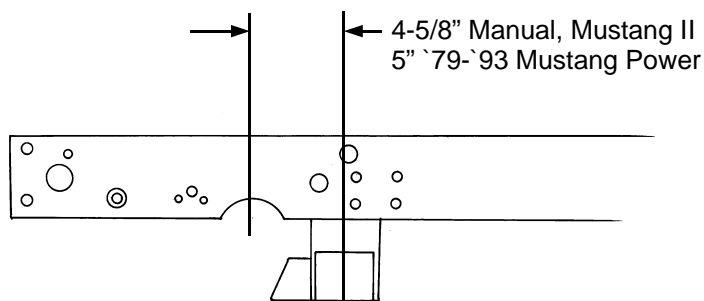

Figure 6
8. The C-notch for the rack is the last part to be done. Measure forward from the centerline 4-5/8" for manual rack and 5" for '78-'78 Mustang II power rack, or 5" for '79-'93 Mustang power rack, and make a mark. See Figure 6. Use the C-notch pieces to scribe a radius to cut. Trim out the material marked, leaving about 1/8" to work with, fitting the C-notch pieces and rack in place as you go. You will also need to trim a portion of the rear stock crossmember for rack clearance. When the rack fits in place, remove the rack and weld the C-notch pieces in place, then grind smooth.